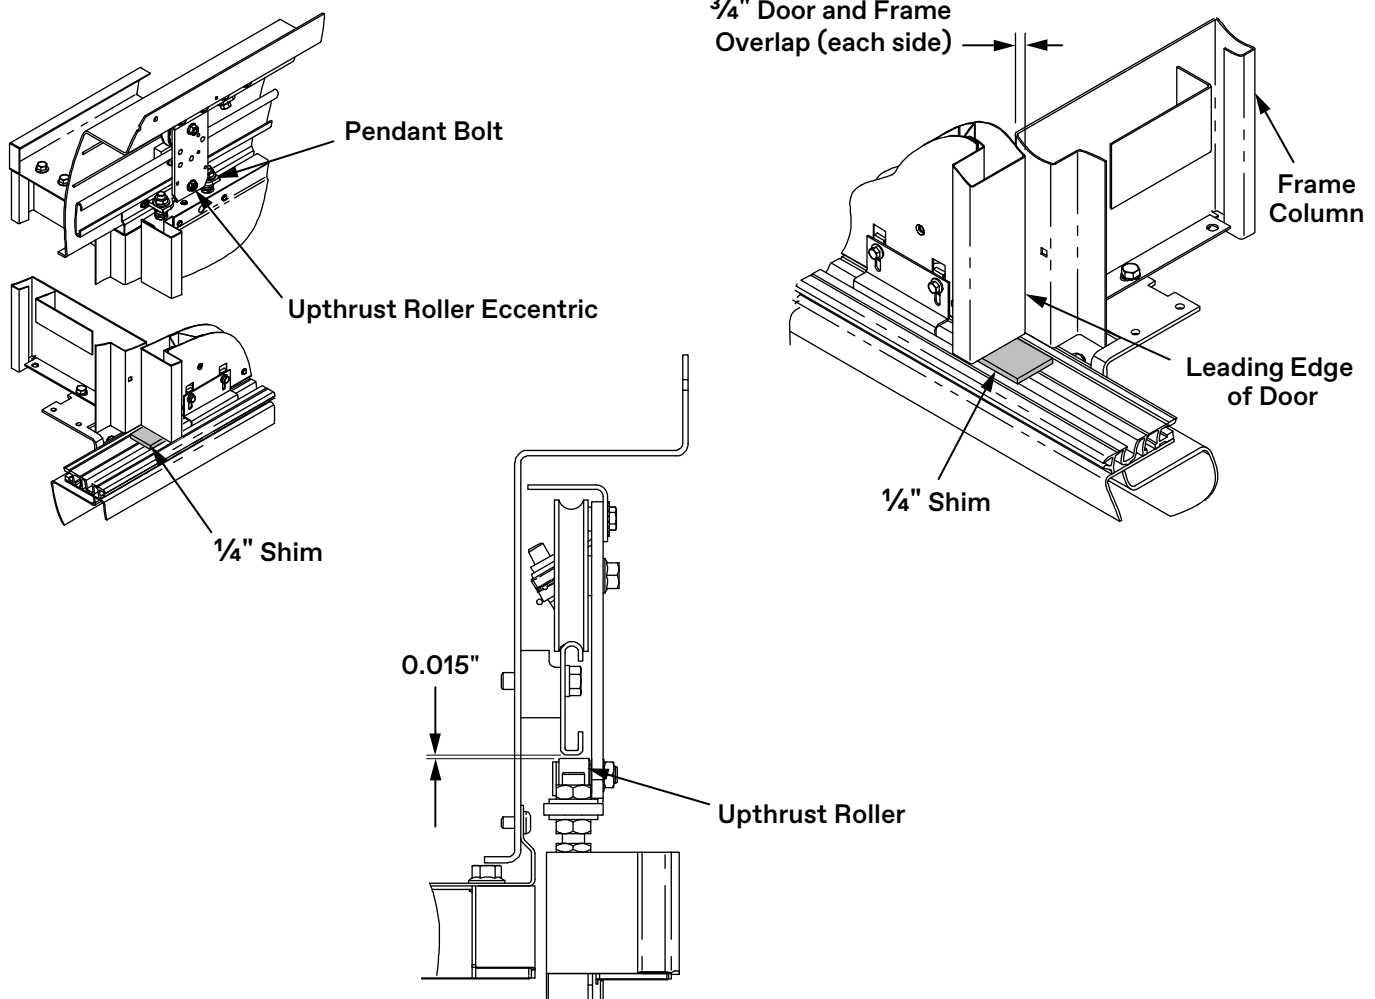

Figure 28 - Adjust Running Clearance
1. Place a $\frac{1}{4}$ " shim (running clearance) under each edge of the door. See Figure 28.